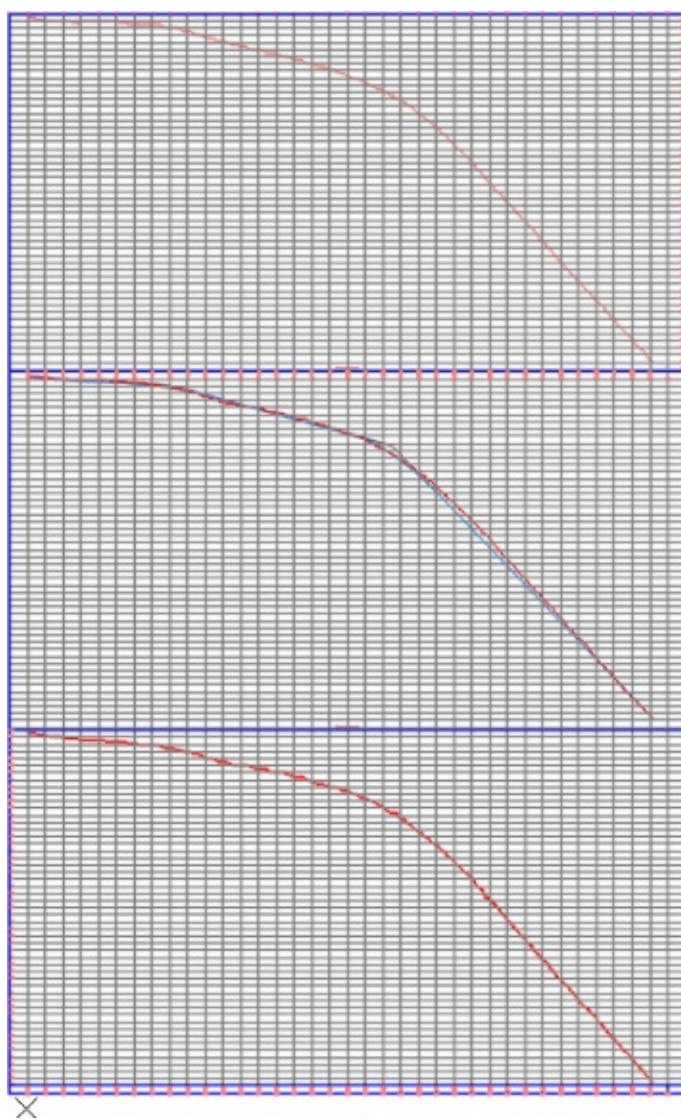

Figure 7.48 Completed stacked profiles
7. Click the Create Profile View button and pick a point on the screen to draw the stacked profiles, as shown in Figure 7.48.